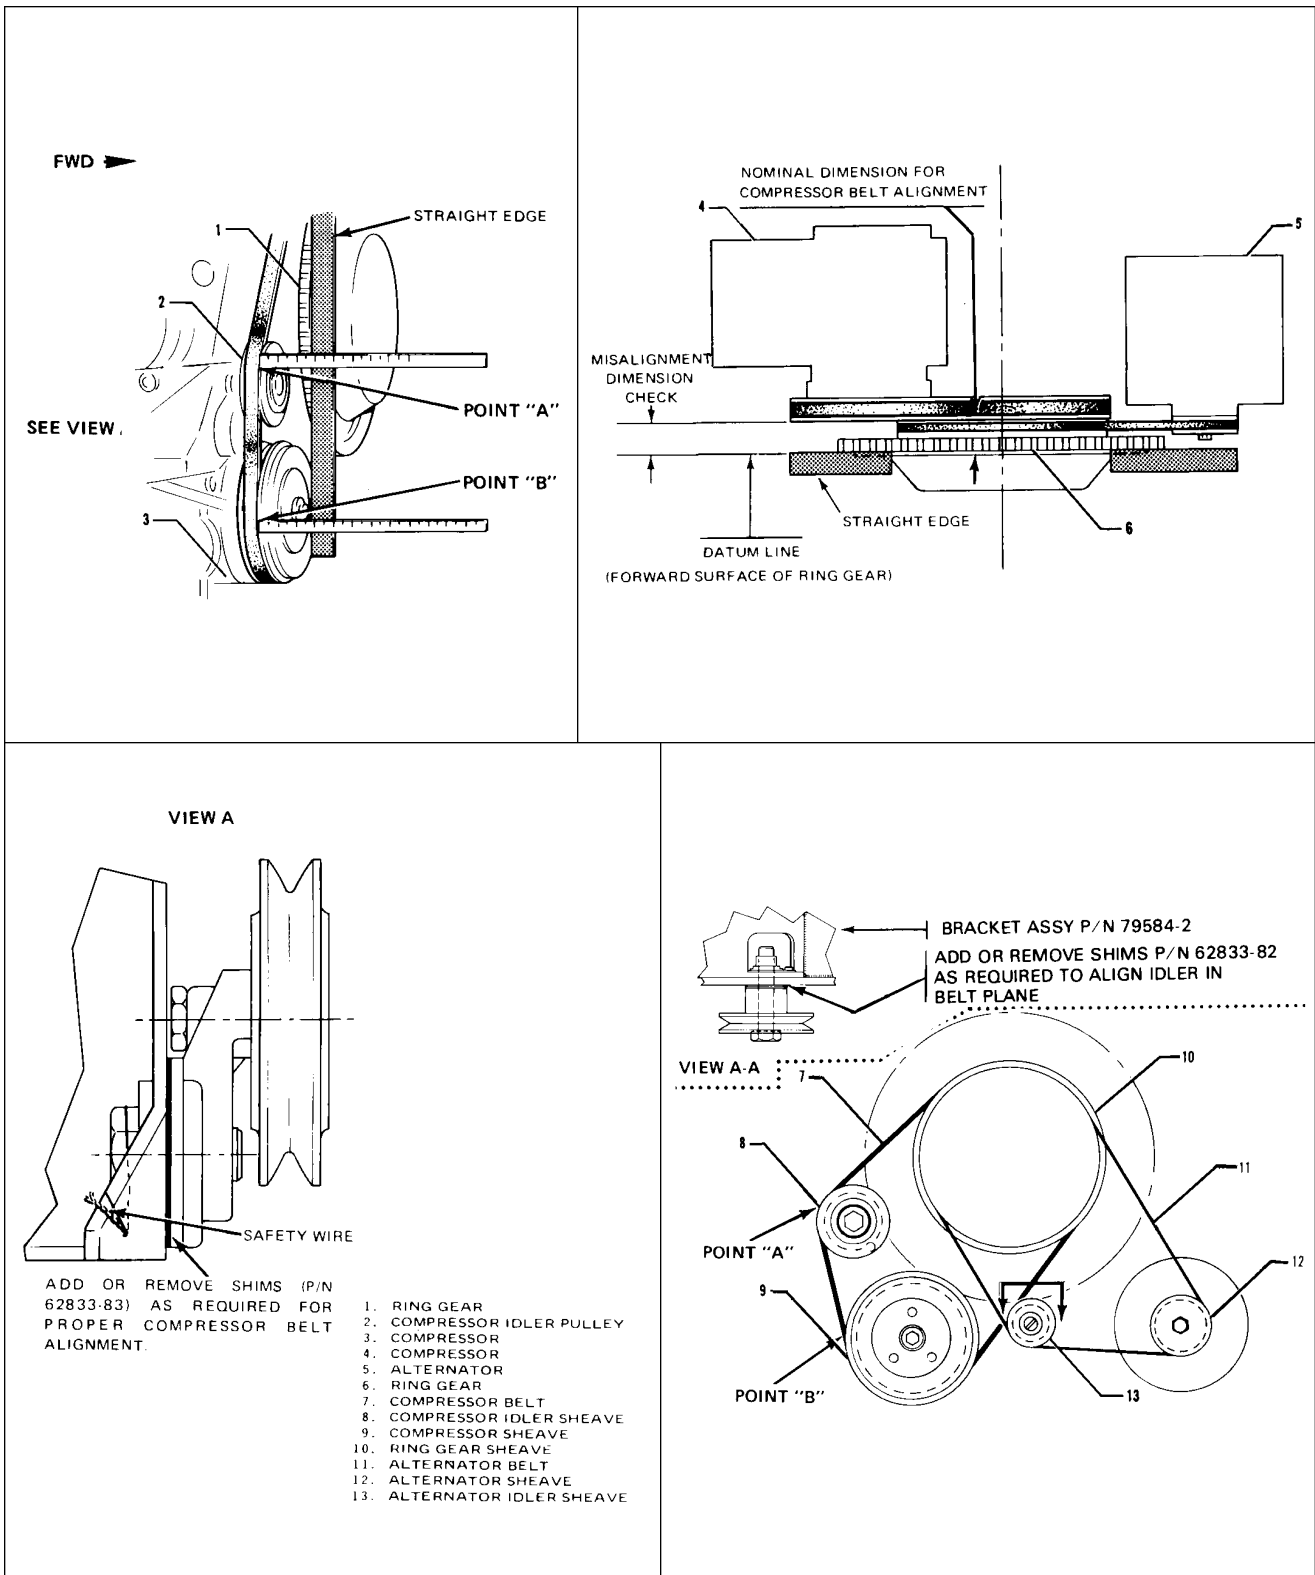

Figure 21-15. Compressor and Alternator Belt Installation (PA-28RT-201)
(Refer to Figure 21-15.) (PA-28RT-201)
4. Route the belts to the proper pulley sheaves as shown in Figure 21-15.
- B. Obtain a basic measurement from the top of the ring gear by measuring the width of the starter ring gear plus the dimension from the forward machined surface of the ring gear to the forward edge of the compressor drive belt. (Refer to Figure 21-15.)
6. Compressor Belt Alignment: (Refer to Figure 21-15.)
7. Alternator Belt Alignment: (Refer to Figure 21-15.)